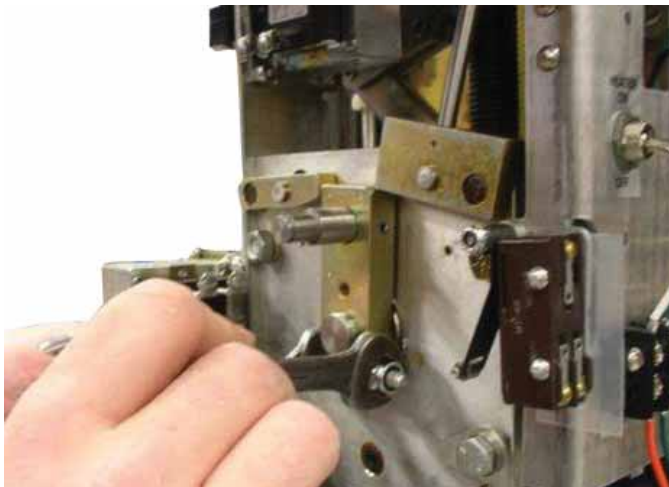

Figure 16.
- i. Using a 7/16" end wrench and torque wrench, torque the clamping nut and bolt to 6 ft-lbs. DO NOT OVER TORQUE. Refer to Figure 16.